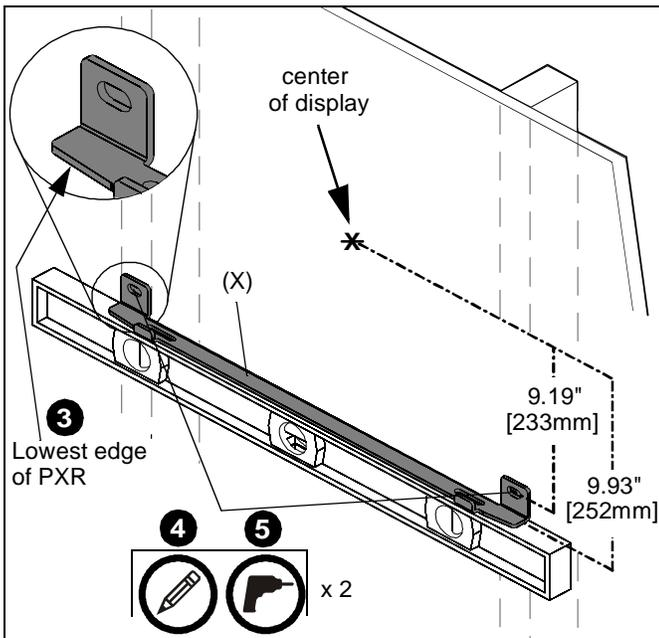
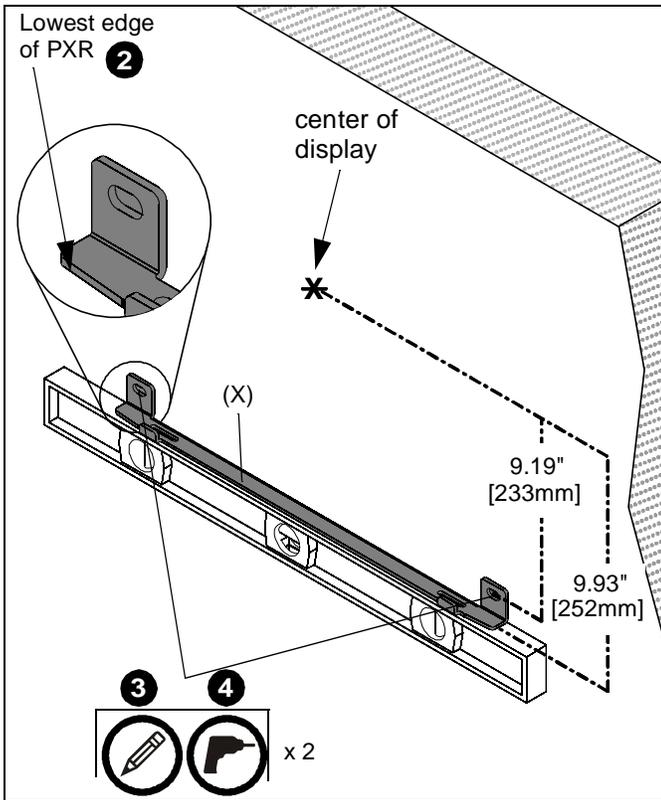

Figure 4
Figure 10
IMPORTANT ! : When considering the PXR location, keep in mind that the distance from the lowest edge of the PXR assembly to the center of the interface brackets (which will also be the center of the display) is 9.93" (252mm). The distance from center of the mounting hole in the mounting bracket to the center of the display is 9.19" (233mm). (See Figure 4) and (See Figure 10)
3. Use a level to join the marked points and mark the lowest edge of PXR. (See Figure 4)
4. Place mounting bracket (X) along marked line on top of level, and mark location of pilot holes. (See Figure 4)
5. Drill two 7/32" x 2-3/4" (5.5mm x 69.9mm) pilot holes at locations marked in Step 4. (See Figure 4)
2. Use a level to mark the lowest edge of PXR. (See Figure 10)
3. Place mounting bracket (X) along marked line on top of level, and mark location of pilot holes. (See Figure 10)
4. Drill two 5/16" x 3-1/4" (M8 x 82.5mm) pilot holes at locations marked in Step 3. (See Figure 10)